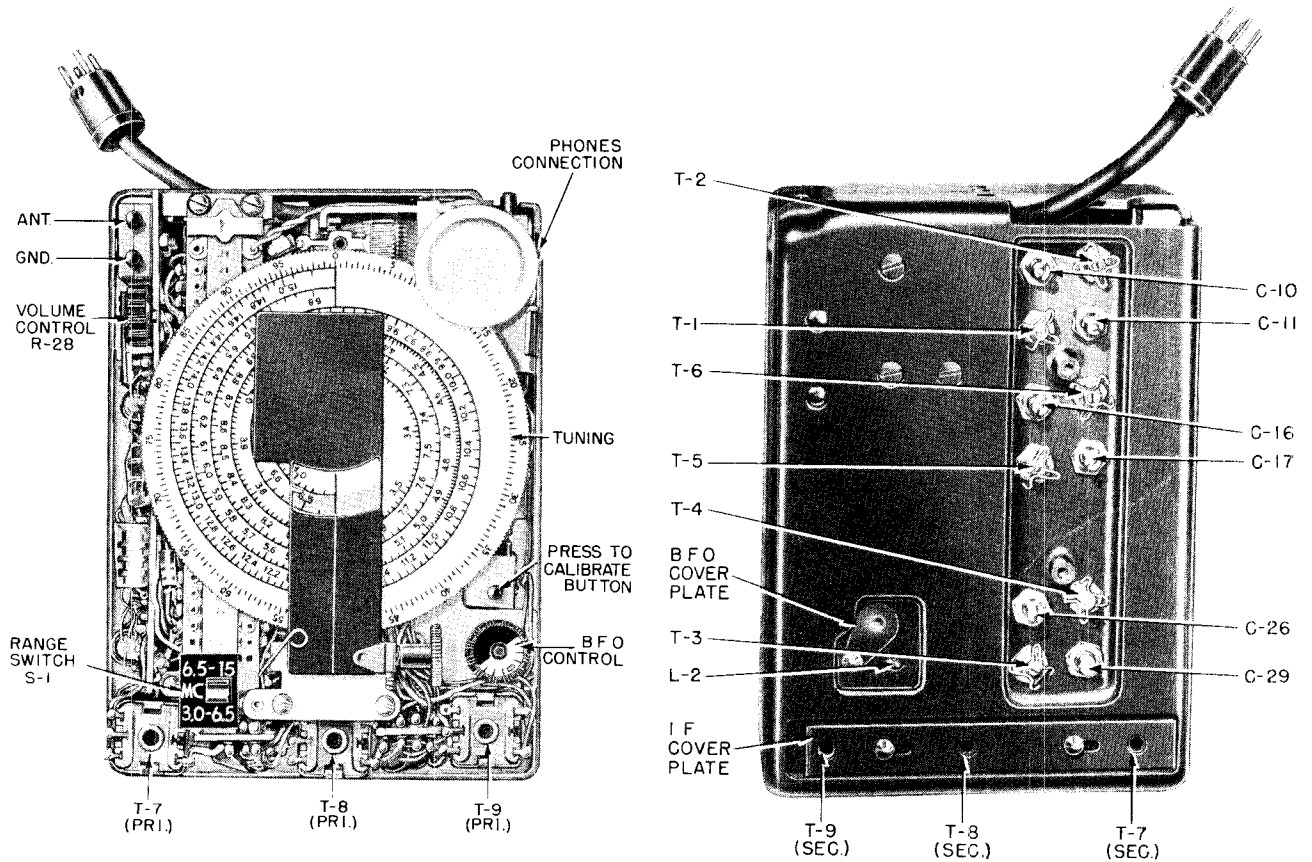

Figure 14. Receiver RR-6, top and bottom views showing alignment adjustment locations.
(1) Connect the equipment, as directed in Chapter 2, Section I (do not connect phone when the output meter is used, as the output load impedance will be reduced by one-half).
(2) Set RECVR-TRANS switch on Filter-Accessory Unit RA-6 to RECVR.
(3) Expose bottom alignment adjustments as follows (see Figure 14):
(4) Connect the output meter across the phones terminals J2. Set the "OHMS" knob to 40 and the impedance multiplier to 100. Set the meter multiplier to 1.
(5) Remove the top cover and turn VOLUME control to maximum volume.
(6) Refer to Figure 14 for adjustment locations.
(7) Remove glyptal from the cores and trimmers in the r-f section with lacquer thinner or acetone. If thinner doesn't loosen the core sufficiently, apply the heat from a soldering iron.
(2) Set the generator output high enough to give about 5 mw output on the meter.
(3) Tune the primaries and secondaries of T9, T8, and T7 for maximum output on meter. (See Figure 14).
(4) The i-f sensitivity is normal if a generator output of 100 microvolts or less produces 5 mw output.
(1) With the equipment connected as above, turn off generator modulation, and set the BFO dial to zero. (The zero on the dial should be at three o'clock when viewed as in Figure 14.)
(2) Adjust the bfo coil (L2) for zero beat.
(3) After alignment of the bfo, apply glyptal to the adjustment screw.